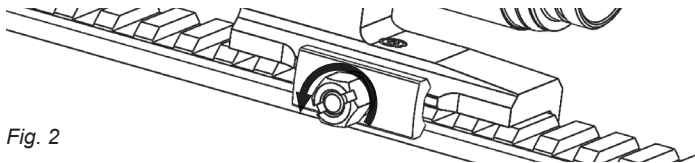

Fig. 2
- b. Loosen the nut (Fig. 2) by turning it counterclockwise with an appropriately sized wrench. Do not use pliers.